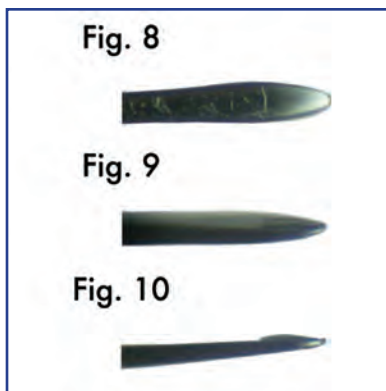

Figure 11
- Bergeon Oiler 7013 is the new ergonomic oiler (Fig. 11).